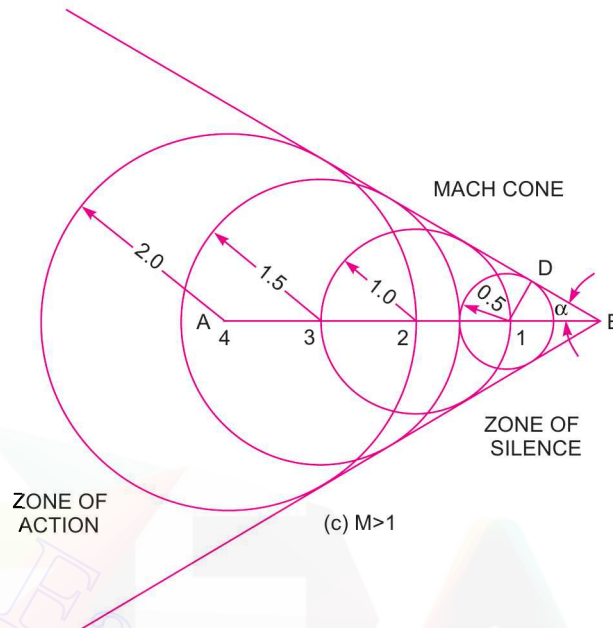

Fig. 15.3 Propagation of disturbance for different Mach numbers.
Let in 4 seconds the projectile reaches to the position  $B$ . At  $A$ , the point 4 is also marked. The position of the projectile after 1 sec, 2 sec, 3 sec and 4 sec along the lines are shown by the points 3, 2, 1 and  $B$  respectively. The projectile moves from  $A$  to  $B$  in 4 seconds and hence the distance  $AB = 4 \times V = 4 \times 1 = 4$  units. The disturbance created at  $A$  in 4 seconds will move a distance  $= 4C = 4 \times 2 = 8$  units in all directions. Hence taking  $A$  as centre and radius equal to 8 units, a circle is drawn. This circle gives the position of disturbance after 4 seconds. When the projectile is at point 3, it will reach  $B$  in three seconds and distance  $3B = 3 \times V = 3 \times 1 = 3$  units. But the disturbance created at point 3 in three seconds will move a distance having a radius  $= 3 \times C = 3 \times 2 = 6$  units. Similarly at point 2, the disturbance will have a radius  $= 2 \times C = 4$  units and at point 1, the disturbance will have a radius  $= 1 \times C = 1 \times 2 = 2$  units. This is shown in Fig. 15.3 (a).
**2nd Case : When  $M = 1$ .** When  $M = 1$ , the flow is known as sonic flow. In this case, the disturbance always travels with the projectile as shown in Fig. 15.3 (b). Let  $V = 1$  unit, and  $C = 1$  unit so that  $M = \frac{V}{C} = \frac{1}{1} = 1.0$ . Let the projectile moves from  $A$  to  $B$  in 4 seconds. The disturbance created at  $A$  in 4 seconds will move a distance having radius  $= 4 \times C = 4 \times 1 = 4$  units in all directions. The projectile
**3rd Case : When  $M > 1$ .** When  $M > 1$ , the flow is known as supersonic flow. Let  $V = 1$  unit and  $C = 0.5$  unit so that  $M = \frac{V}{C} = \frac{1}{0.5} = 2.0$ , which is greater than unity. Let the projectile moves from  $A$  to  $B$  in 4 seconds. The distance travelled by the projectile in 4 seconds  $= 4 \times V = 4 \times 1 = 4$  units. Hence, take  $AB = 4$  units. The disturbance created at  $A$  will move in all directions and in 4 seconds, the radius of disturbance will be equal to  $4 \times C = 4 \times 0.5 = 2$  units. Hence taking  $A$  as centre, draw a circle with radius equal to 2 units. After one second from  $A$ , the projectile will be at point 3 and distance  $A3 = V \times 1 = 1 \times 1 = 1$  unit. The projectile from point 3 will reach point  $B$  in three seconds. Hence the disturbance created at point 3 will move in all directions and in three seconds, the radius of disturbance from point 3 will be equal to  $3 \times C = 3 \times 0.5 = 1.5$  units. Similarly the radius of disturbance at point 2 and 1 will be  $2 \times C = 2 \times 0.5 = 1$  unit and  $1 \times C = 1 \times 0.5 = 0.5$  unit respectively as shown in Fig. 15.3 (c). In this case the sphere of propagation of disturbance always lags behind the projectile. If we draw a tangent to the different circles which represent the propagated spherical waves on both sides, we shall get a cone with vertex at  $B$ . This cone is known as **Mach Cone**.
**15.6.1 Mach Angle.** This is defined as the half of the angle of the Mach cone. In Fig. 15.3 (c), angle  $\alpha$  is known as Mach angle. In the  $\triangle 1BD$  of Fig. 15.3 (c), the distance  $1B =$  Velocity of projectile  $= V$ , the distance  $1D =$  Velocity of sound wave  $= C$ . Hence we have